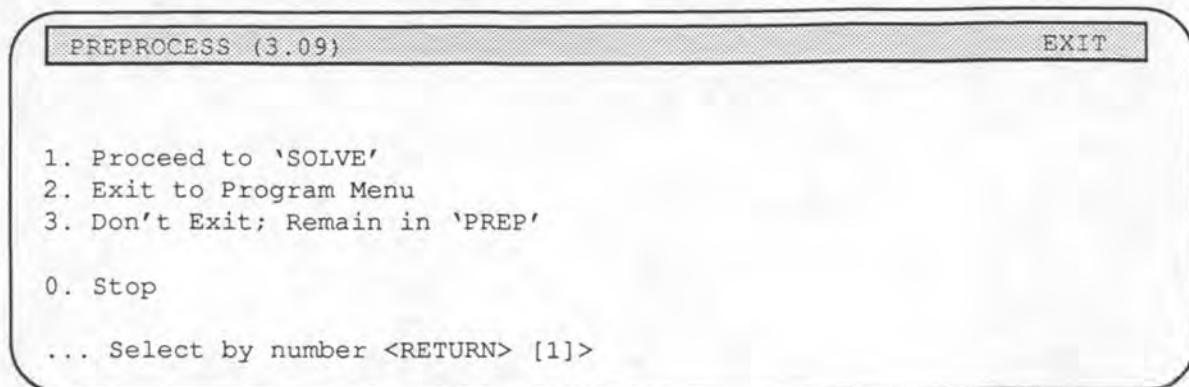

Fig 2.30 Preprocess exit menu
- Select 1 (Fig 2.30) to advance to the SOLVE module.
You can enter the solve module from the main menu (Fig 2.6) or as a continuation from the properties module (Fig 2.30).